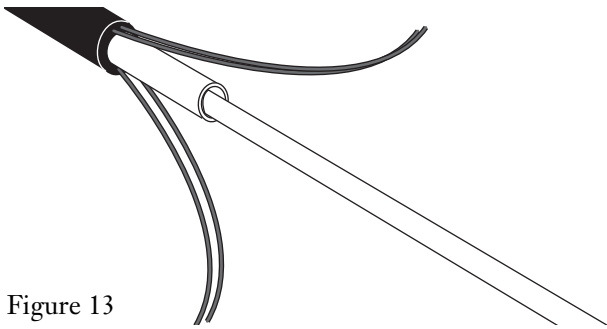

Figure 13
- Repeat these steps until the desired length of central tube is removed, leaving at least 2.5 cm (1 in.) of exposed central tube beyond the end of the sheath (see Figure 13). *The length of exposed central tube may vary depending on the hardware being used..*